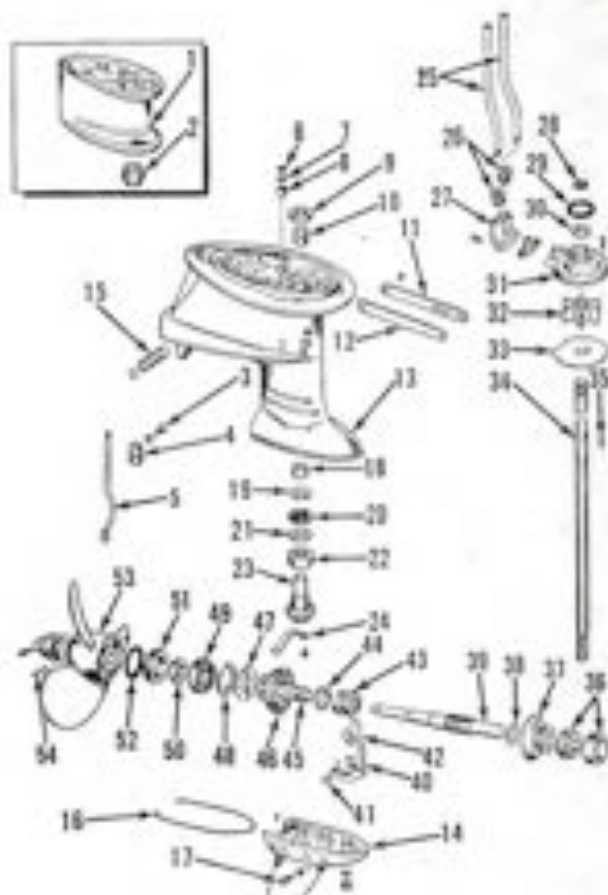

Fig. 364—Exploded view of lower unit gearcase and associated parts used on late models. Parts in least are used on "Long" models only.
The propeller shaft (31—Fig. 363 or 39—Fig. 364) and drive gears (30 & 36—Fig. 363 or 37 & 46—Fig. 364) can be removed after first draining lubricant from gear compartment, removing pinion screw (17), and unlubing and removing gearcase lower bearing (34). To remove pinion (30—Fig. 363 or 37—Fig. 364) it is necessary to remove retainer strap (21—Fig. 363 or 24—Fig. 364).
To separate gear case from the exhaust and drive shaft housing, it is necessary to remove cover (18—Fig. 363 or 32 & 18—Fig. 364) and loosen clamp bracket screw (4—Fig. 363 or 3—Fig. 364). Gear case can then be unlubed and separated from exhaust housing.
On motors after 1958, observe the following. Pinion thrust bearing races (19 & 21—Fig. 364) are of different sizes. Bearing race (21) has a 1/4-inch diameter inner hole and should be installed on pinion first. Race (19) has a 1/2-inch diameter hole and fits more snugly in gear case. When reassembling, install a new sealing strip (16) and trim the ends to extend 1/8-inch from ends of seal grooves.